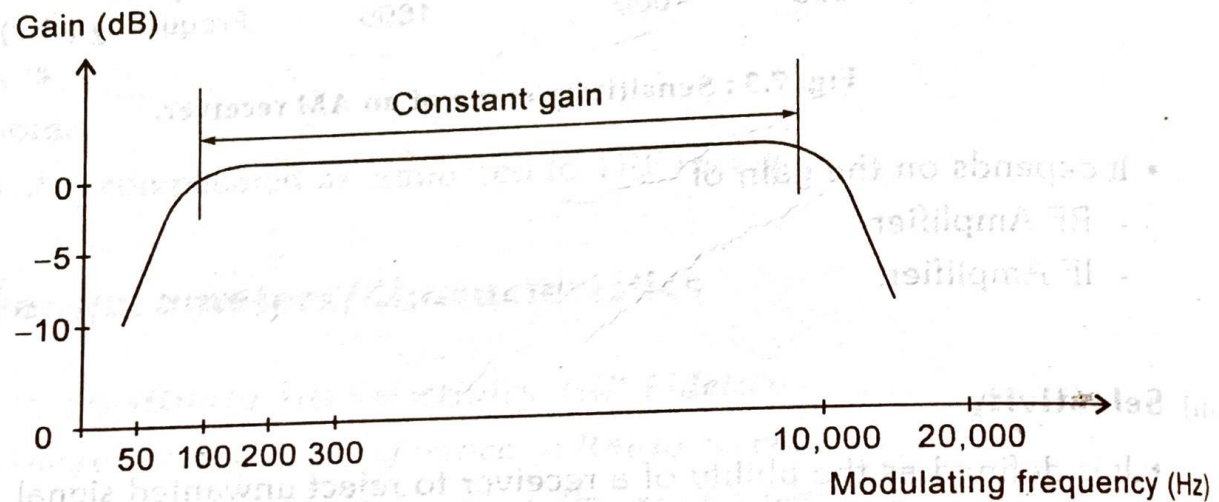

Fig. 7.5 : Typical fidelity curve of a receiver.
- A typical fidelity curve is as shown in figure 7.5.